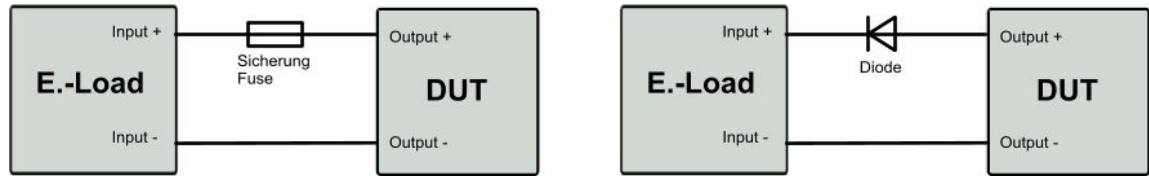

Figure 2.24: Reverse polarity protection by fuse (left) or diode (right)
- Connect a fuse that is suitable for your application between the test object and Input+ of the electronic load, as shown in Figure 2.24.
- As shown in Figure 2.24, we recommend additionally looping a reverse polarity diode into the load circuit externally to protect the test object and the device.